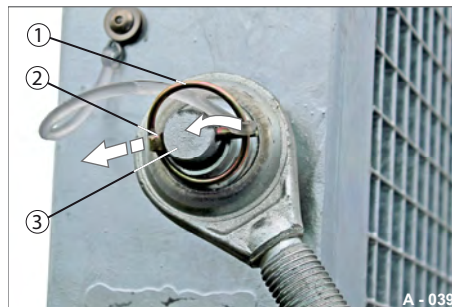

Fig. 58 Unlocking the securing rod (top)
- ▶ Twist open the circlip (Fig. 58/1).
- ▶ Pull the locking pin (Fig. 58/2) out of the bolt (Fig. 58/3).